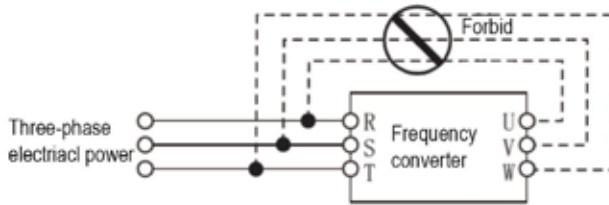

Figure 1-2
- It is strictly forbidden to connect AC power to the output terminals U, V, W of the inverter, otherwise it will cause damage to the inverter, as shown in Figure 1-2.